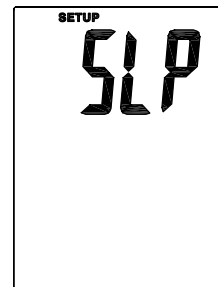

Fig. 4
1. While in Setup mode, press **UNIT ▲** or **UNIT ▼** to scroll to the "SLP " screen (refer to Fig. 4). Press **ENTER** to display "On".